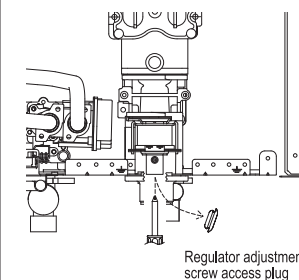

Fig. 4
11. Remove rubber access plug and adjust the regulator screw on the modulating valve (Fig. 4) as required in the pressure Table 1. Replace rubber access plug.